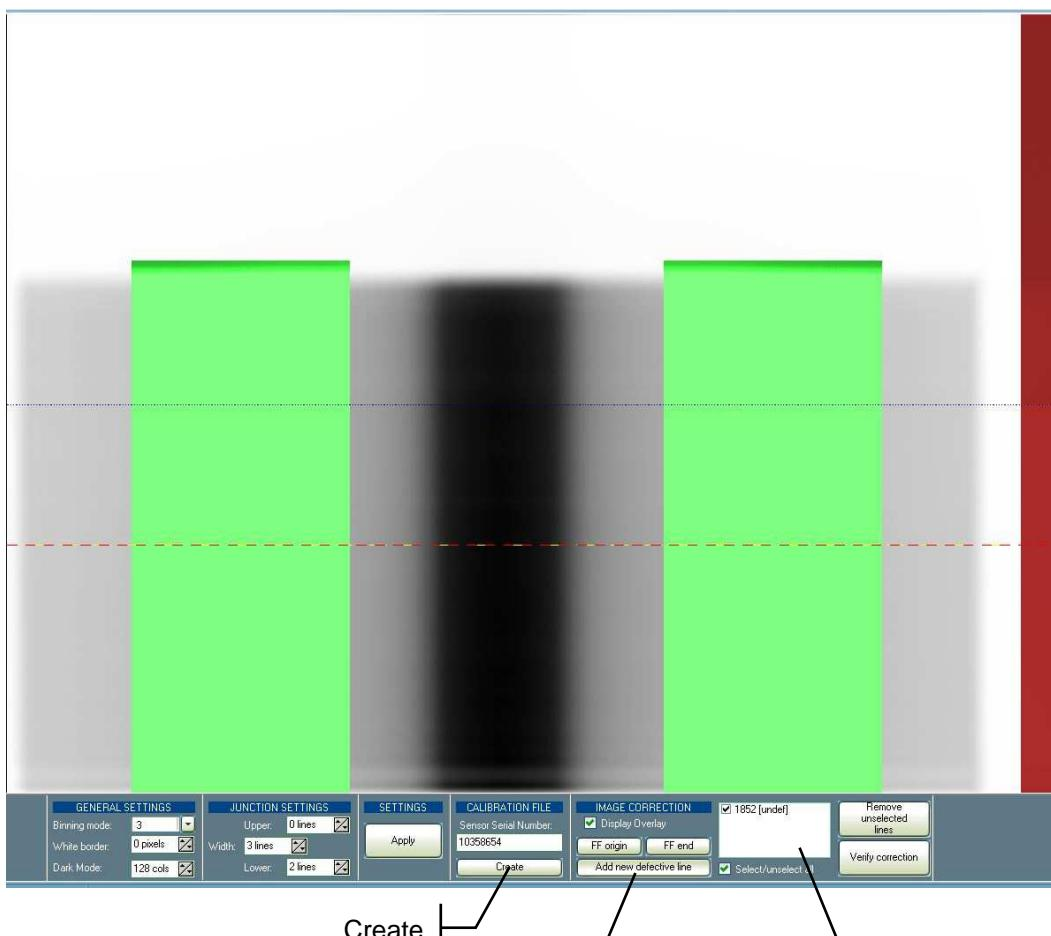

Figure 7-21
2. Press button "Add new defective line" (Figure 7-21) to add the selected defective line to the relevant list.
5. Press button "Create" (Figure 7-21), then "Save" to create (or replace if already present) the calibration file.